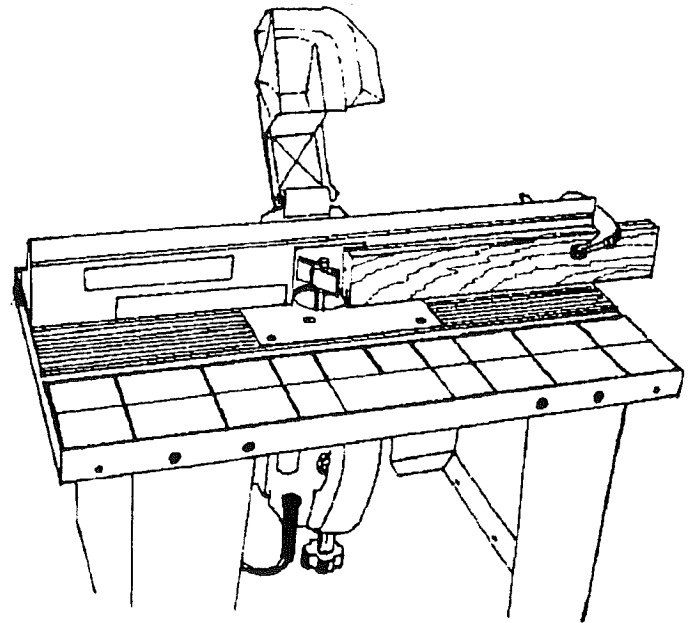

FIGURE 25.
1. Mark lines "A" and "B" on the end of this board. Line "A" for desired depth of cut (amount of material you want to remove) and line "B" for desired cutting height. See Figure 25.
2. Clamp this board against the face of the fence with edge resting on table top and end marked with lines "A" and "B" close to the bit. See Figure 25. (MAKE SURE ROUTER IS UNPLUGGED WHEN CLAMPING BOARD AND MAKING ADJUSTMENTS).
2. Adjust depth of cut (material you want to remove) and router bit height as described previously for Figure 25. Tightly secure the fence and the router as described before. (MAKE SURE ROUTER IS UNPLUGGED WHEN MAKING ADJUSTMENTS).